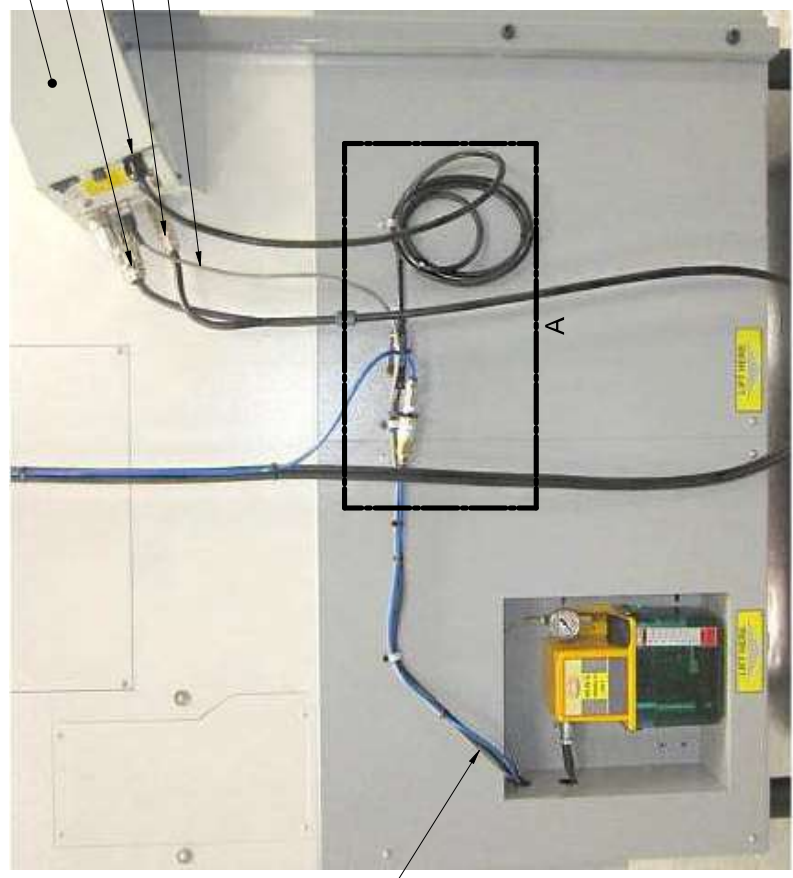

FIG 5
- VIII. ROUTE AC POWER EXTENSION CABLE, INDEXER INTERFACE CABLE (ITEM 6) AND 6mm AIR HOSE THROUGH HOLE ON LEFT HAND SIDE OF MACHINE (FIG 5). ITEM 6 AND POWER CABLE WILL BE ROUTED UP TO CONTROL BOX THROUGH RIGHT/Front GROMMET (FIG 4a). PLUG 'INDEXER IN', 'INDEXER OUT' AND POWER CABLE TO RESPECTIVE AREAS (FIG 4, 4a, 4b). (FIG 5)